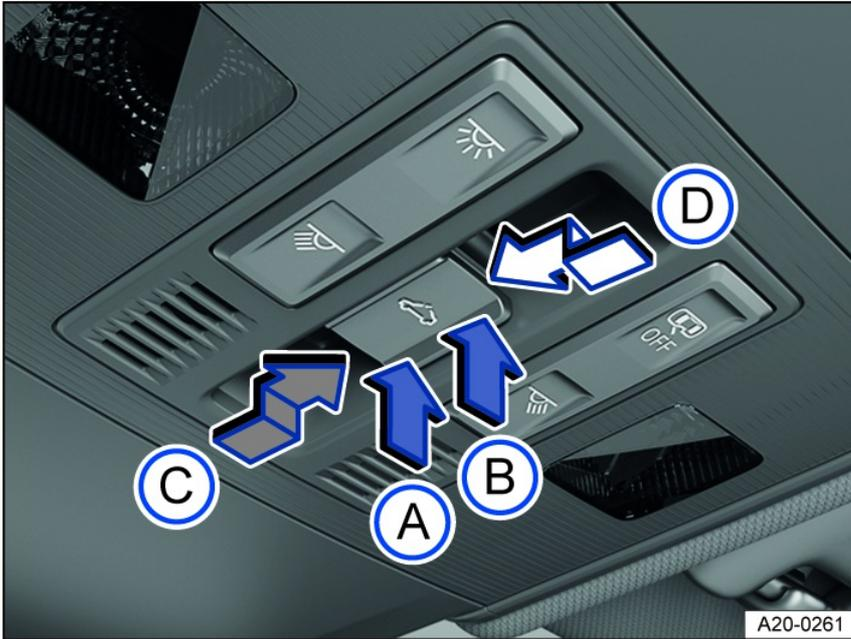

Fig. 67 In the headliner: sunroof button.
- Manual process: Press the *fig. 67* **B** button to the first level.
- Automatic process: Press the *fig. 67* **B** button to the second level.
- Manual process: Press the *fig. 67* **A** button to the first level.
- Automatic process: Press the *fig. 67* **A** button to the second level.
- Manual process: Press the *fig. 67* **C** button to the first level.
- Automatic process to comfort position: Press the *fig. 67* **C** button to the second level.
- Manual process: Press the *fig. 67* **D** button to the first level.
- Automatic process: Press the *fig. 67* **D** button to the second level.
1. Press the *fig. 67*  or  button again.